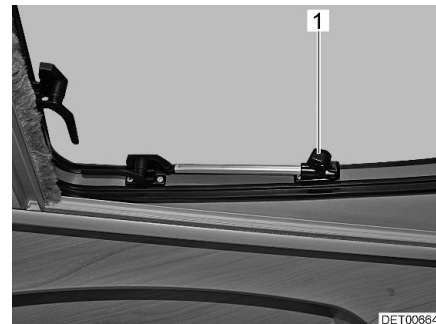

Fig. 28 Sunroof with rotary hinges, open
- Open the sunroof until the required position has been reached and use knurled knob (Fig. 28,1) to secure in position.
- Turn knurled knob (Fig. 28,1) until the latch is released.